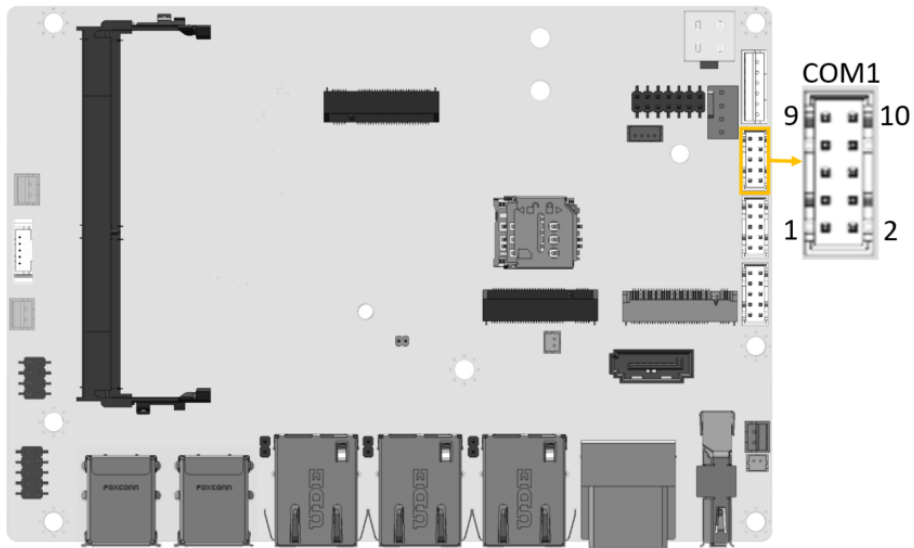

Figure 3-15: RS-232 Serial Port Connector Location
- CN Location:** See **Figure 3-15**